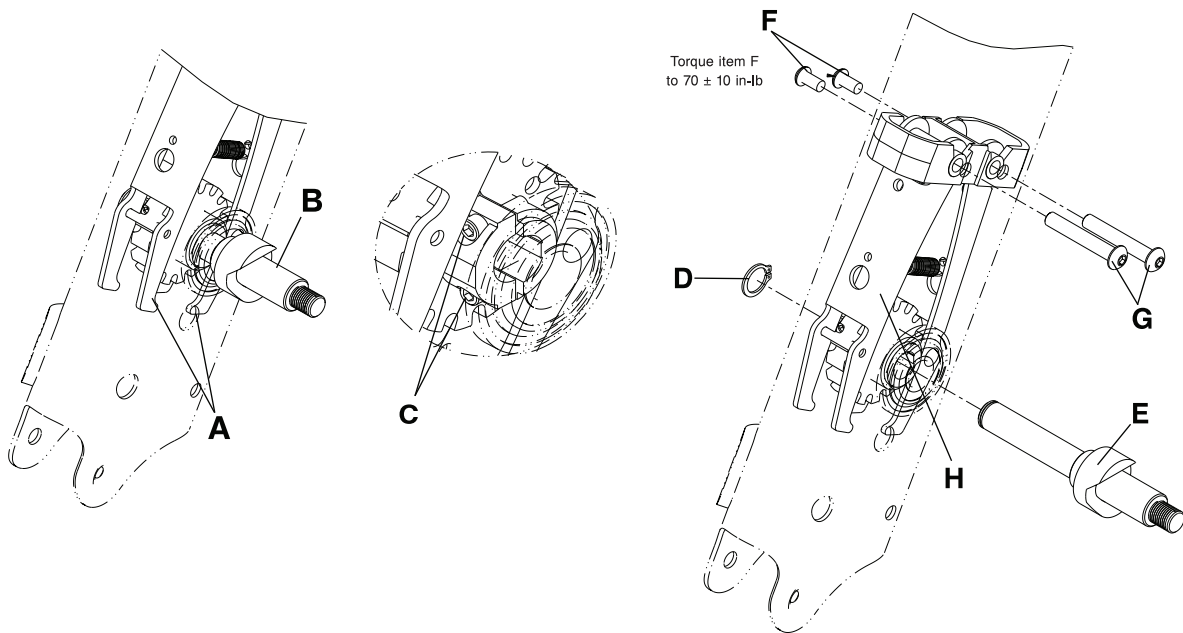

Figure 30: Brake finger assembly replacement
2. Using your hand, manually open the brake fingers (A). Using your other hand, manually rotate the rear wheel shaft assembly (B) so the socket head cap screws (C) face the bottom of the chair (Figure 30 on page 48).
3. Using a 9/64" hex wrench, loosen the two socket head cap screws (C) on the rear wheel shaft assembly (B) (Figure 30 on page 48).
4. Using snap ring pliers, remove the retaining ring (D) (Figure 30 on page 48) that secures the rear wheel shaft assembly (E) (Figure 30 on page 48) on the chair frame. Save the retaining ring.
5. Remove the rear wheel shaft assembly (E) (Figure 30 on page 48).
6. Using a 5/32" hex wrench and a 3/16" hex wrench, remove the screws (F) and brake finger spacer nuts (G) that secure the brake finger assembly (H) (Figure 30 on page 48). When reinstalling the screws (F), use a 3/8" drive torque wrench to torque the screws to 70 ± 10 in-lb.
7. Remove and discard the brake finger assembly (H) (Figure 30 on page 48).